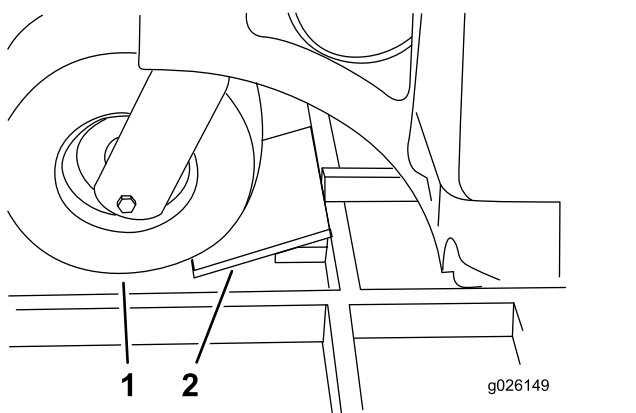

Figure 7
- Install pieces of wood, to form a ramp, in front of the rear tire (Figure 7).